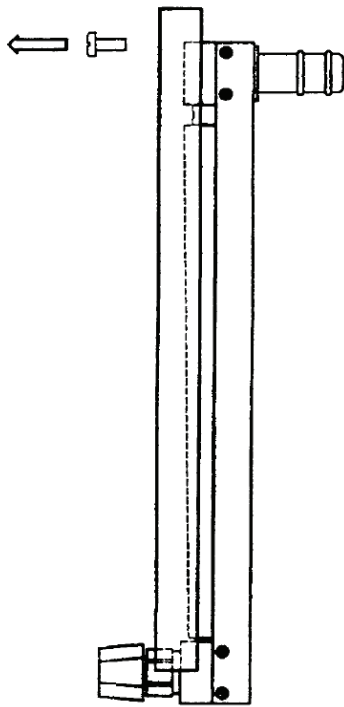

FIG. 1
2. Remove cover retaining screw and slide cover upwards and then outwards at the top (Fig 1).